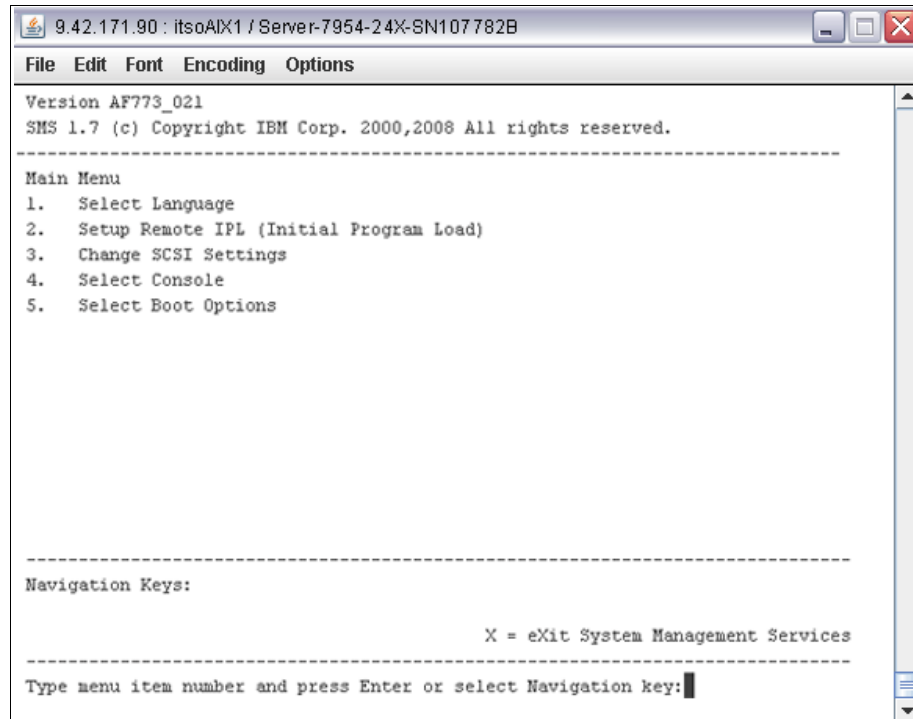

Figure 7-113 Terminal console access
- When the terminal console opens (as shown in Figure 7-113), direct access to the virtual terminal of the selected partition is available. No other authentication to the HMC is required. The virtual console window frame header indicates the HMC IP address, partition name, and server name.